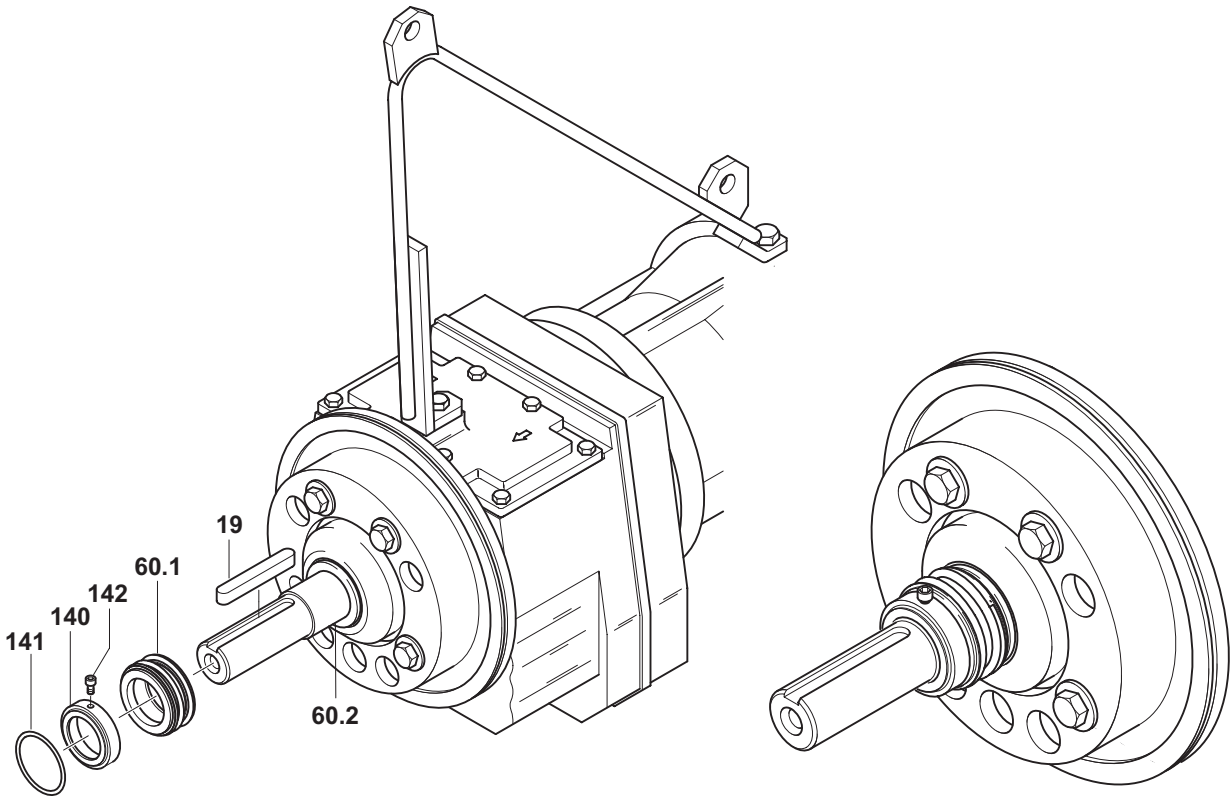

Figure 10 Assembling of the mechanical seal
**ATTENTION** *Ensure the correct positioning of the fixing ring (see detailed illustration Figure 10). The groove for the seal has to show into the direction of the shaft end.*